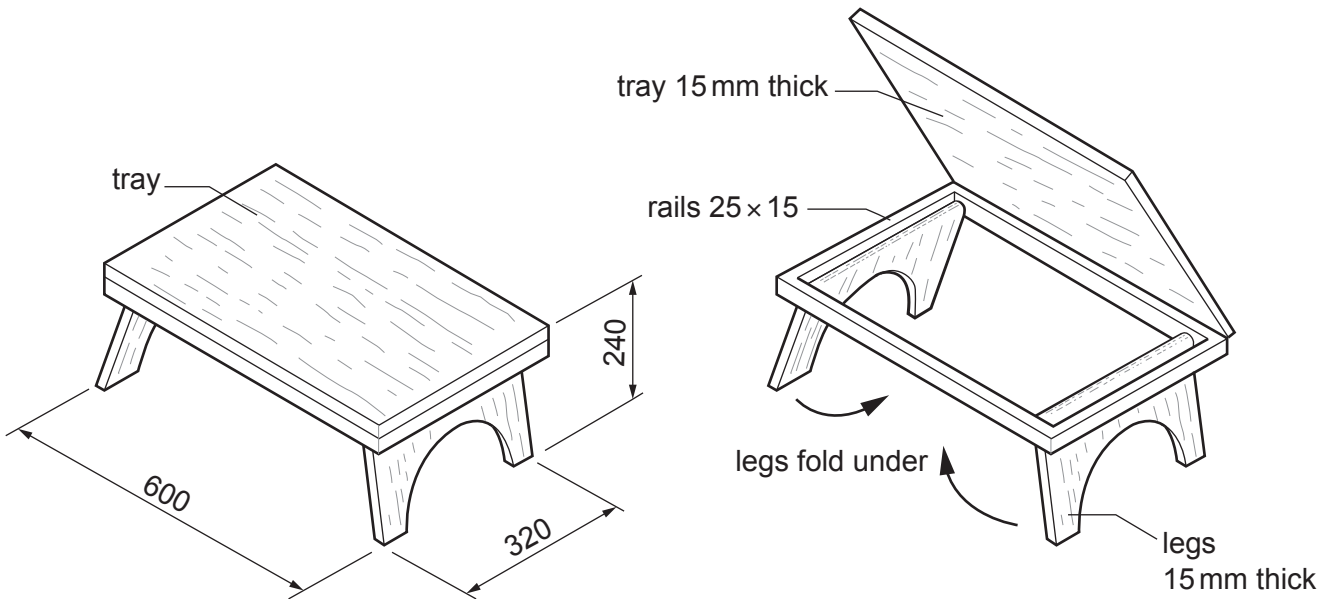

Fig. 13.1
- 13 Fig. 13.1 shows views of an incomplete design for an adjustable tray that could be used by a person sitting up in bed.